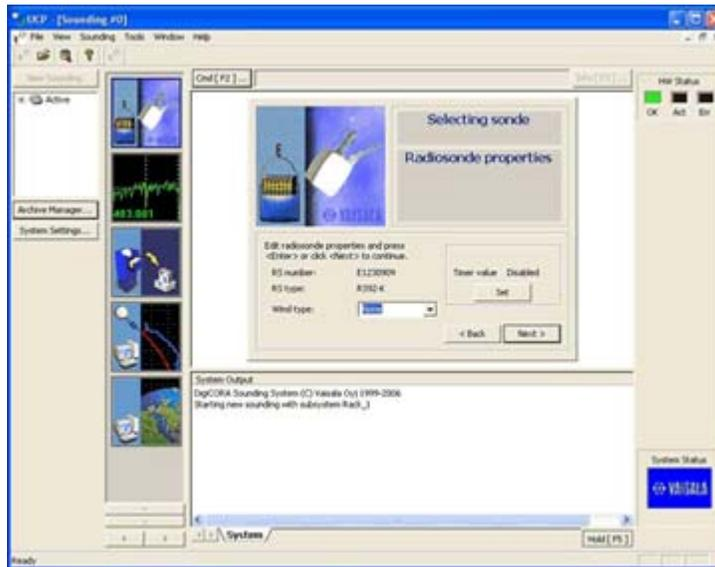

Figure 5
28. On the "Radiosonde properties" screen, verify the serial number and sonde type, and then press "Next" (see Figure 5).